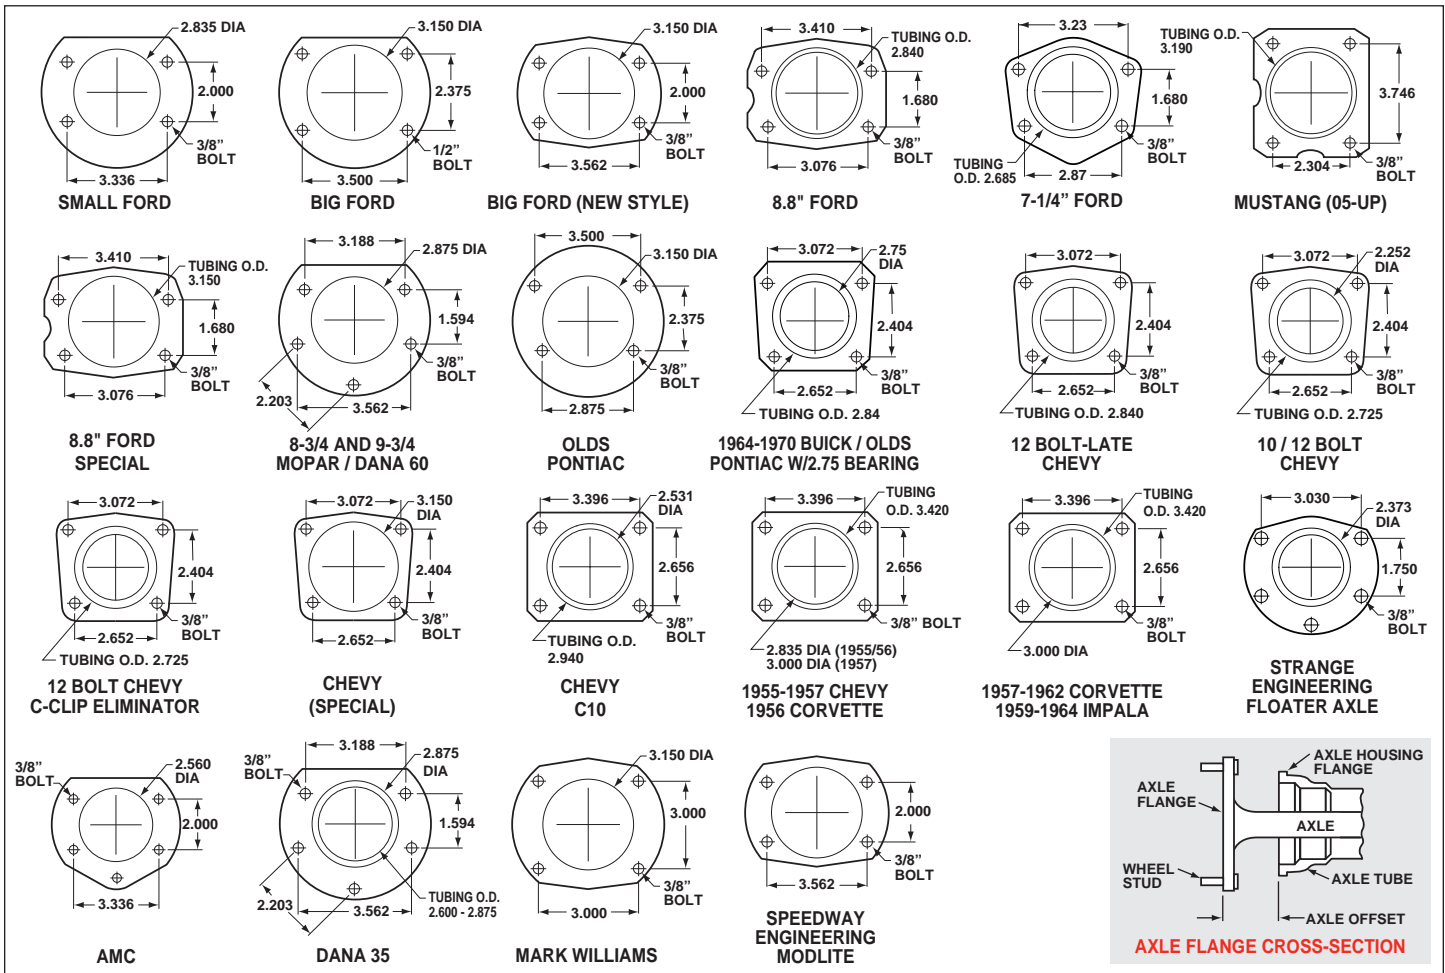

Figure 6. Rear Housing Flange Chart and Axle Flange / Offset Cross-Section
- Make sure this is the correct kit to fit your axle housing flange and axle offset. Multiple rear axle assemblies were available on 1966-77 Ford Broncos. Using Figure 6, check that your rear axle matches the description on page 1 of these instructions (i.e. Small Bearing Ford, 2.36 Offset).
- Dimension from wheel side of axle flange to wheel side of axle housing flange (see Figure 6, lower right hand corner). This dimension is critical to ensure proper alignment of the rotor to the caliper, and should match offset given in the kit description.